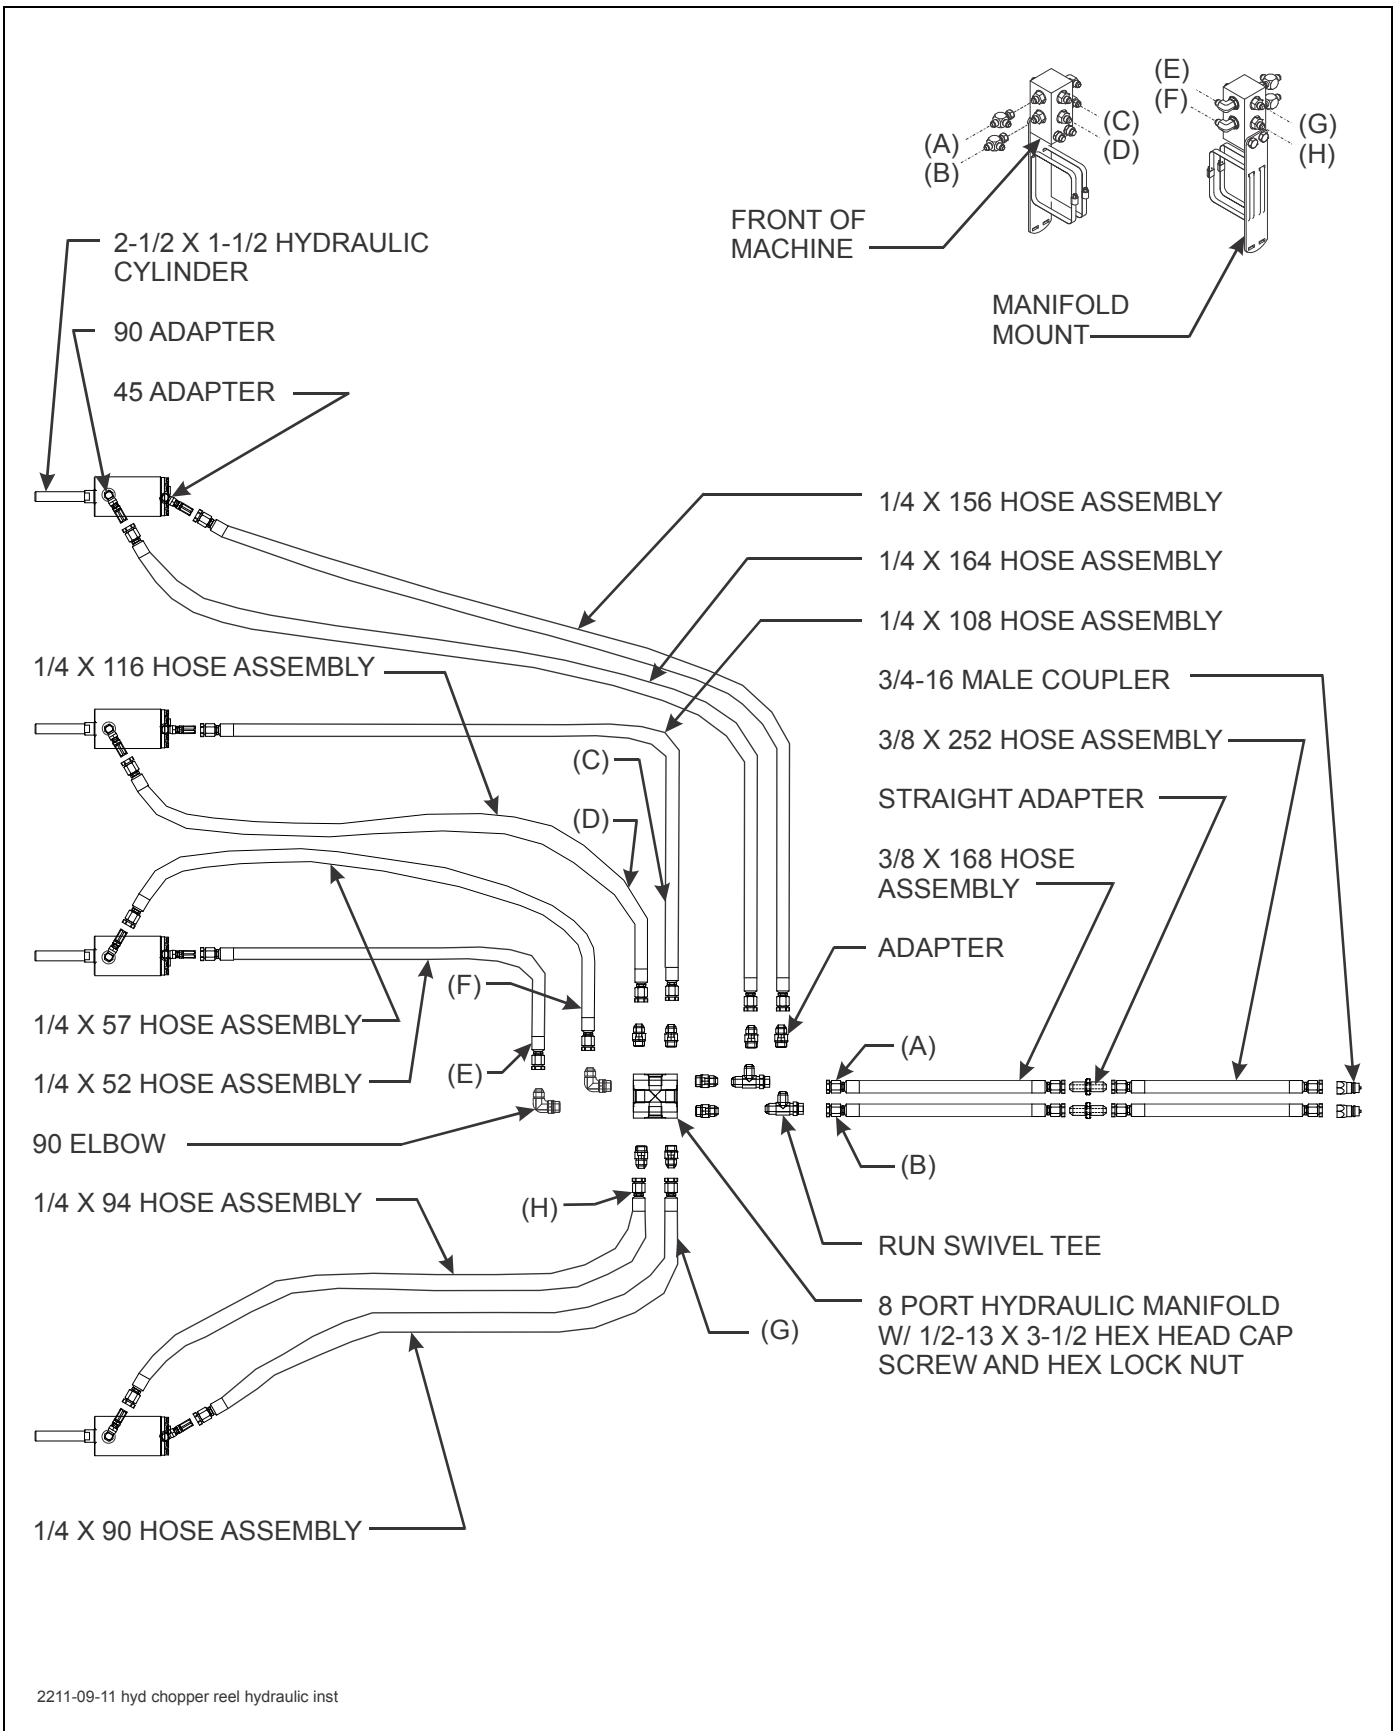

Figure 3-31: 2211-09 & -11 Chopper Reel Hydraulic Installation (Option)
2. Install 8 port manifold assembly to hose mount and wing hose mount tubes using 1/2-13 x 4 hex head cap screws and hex lock nuts. Orient manifold as shown in **Figures 3-31 and 3-33.**
3. Install fittings and route hoses as shown in **Figures 3-31, 3-34, 3-35, and 3-36.**